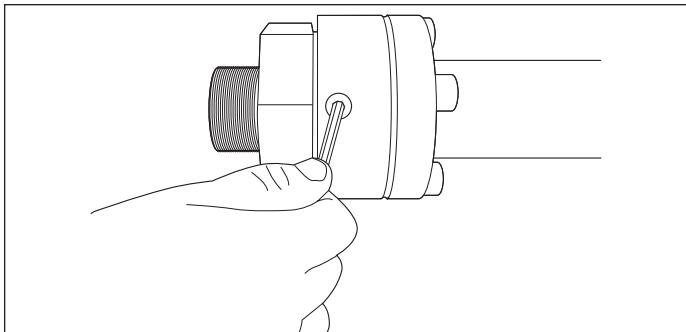

Figure 21-9
- Repeat the Fuel Sensor and Fuel Sensor Housing Installation procedures if an additional fuel sensor is being installed on the opposite end fitting. If only using one fuel sensor then ensure DoubleTrac® secondary plug on opposite end fitting is installed and tightened (Figure 21-9).